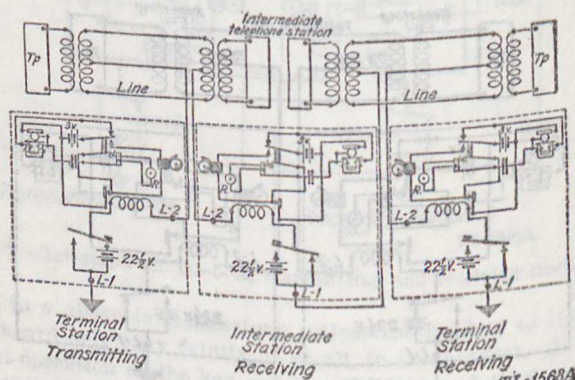

FIGURE 7.—Telegraph set TG-5-A, three stations connected to a simplex telephone circuit.
exclusively for telegraph or they may be telegraph legs of simplex telephone circuits. Figure 7 shows two terminal stations and one intermediate station connected to a telephone circuit which is simplex around an intermediate telephone station.
(1) Add another battery BA-2 in series with the line battery.
(2) Call the other station, inform it that the line battery has been increased to 45 volts, request it to increase its line battery to the same value, and to transmit for a further test.
(3) Adjust the relay as directed in paragraph 24 *c*.
(4) Add more line battery if necessary, but see *b* below.
b. Amount.—It is possible to cause serious damage to the set by adding an excessive amount of line battery. (See fig. 7.) If the keys of two or more sets are depressed simultaneously, the combined voltage of the line batteries of all these sets is impressed upon the series circuit containing all of the relays. Although the relay winding will withstand relatively high voltages without injury, keep the line current as low as practicable because the relay works much better at lower current values, interference troubles are less, and interception is more difficult. Add only enough voltage to assure satisfactory operation, and no more.